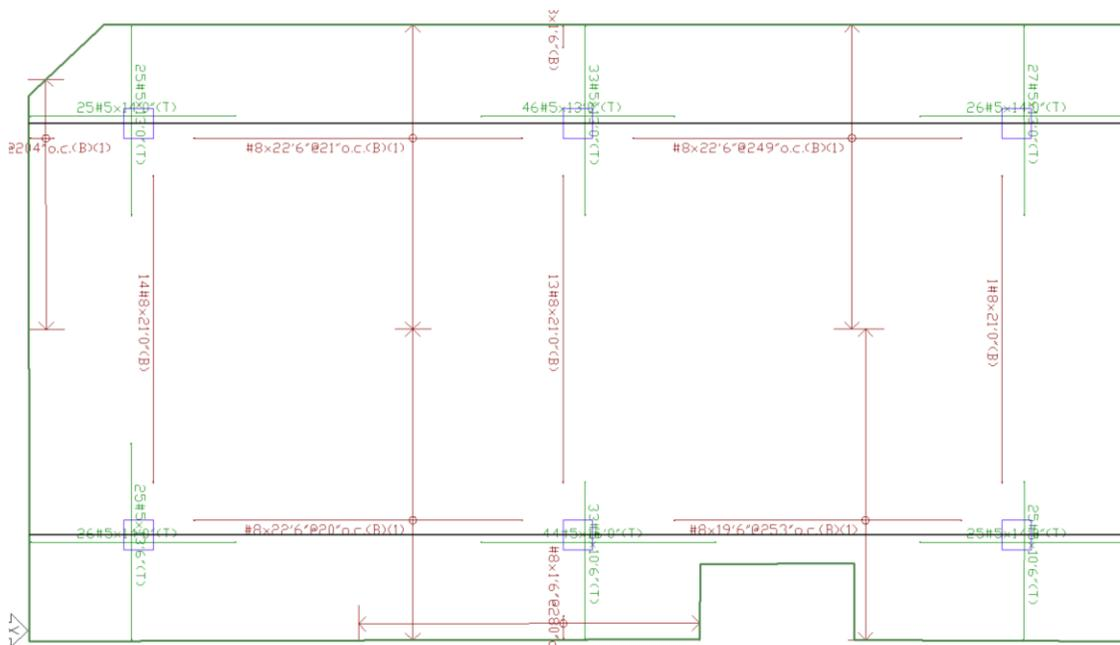

Figure 10.6-4 (1) - Sample Rebar Drawing In Plan
- The program displays a plan such as shown in **Figure 10.6-4 (1)**, with the reinforcement displayed according to the program's default settings. You can control the display as described below.